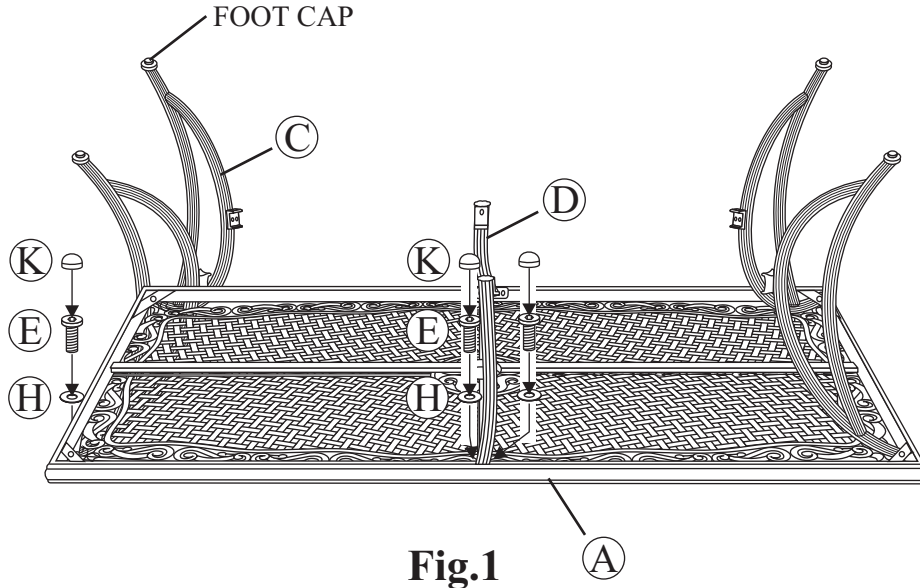

Fig.1
- 1 Place the table top upside down on a flat, non-abrasive surface. Attach table leg to table top by using a 1/4"x20 mm bolt and a washer as shown in **Fig.1**. Place the leg beneath the table rim corner bracket. Guide the bolt through the hole in the table rim and into the pre-drilled hole in the table leg. **Hand tighten only**. Repeat for the other three legs. Attach the topside support to the table top by using two 1/4"x20 mm bolts and washers as shown in **Fig.1**. **Hand tighten only**. Repeat for the opposite side.
**1** **Important: We recommend 2 people work together to assemble the chair.** Note the arrow labels on the "U" bar and the rocker assembly. Also note the horseshoe shape of the rocker plate. Point the open end of the horseshoe away from you. The arrows on the rocker assembly should be pointing towards you. Set the chair frame on the rocker assembly with front of the seat facing you and the arrows on the "U" bar pointing towards you as shown in **Figure 1**. This is very important for a safe, balanced rocking motion. **If chair frame has been properly positioned on the rocker assembly, all arrows on the "U" bar and rocker assembly will be pointing in the same direction.**